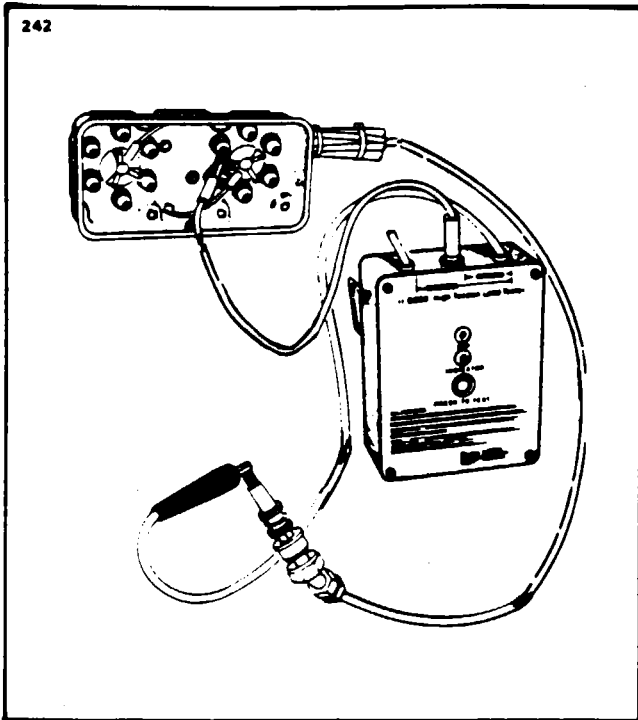

Figure 74-20. Checking Harness Lead Continuity
A. Connect black test lead to contact spring and red lead to eyelet of the same lead. (Refer to Figure 74-20.)